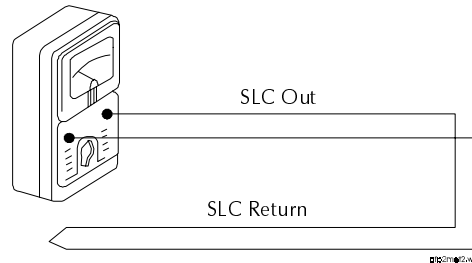

Figure 2-61 Meter Leads for Measuring a Four-wire SLC
The total DC resistance of the SLC pair cannot exceed 40 ohms. Measure DC resistance as shown in Figure 2-61.
3. Measure the resistance across the SLC Out leads (Figure 2-61).